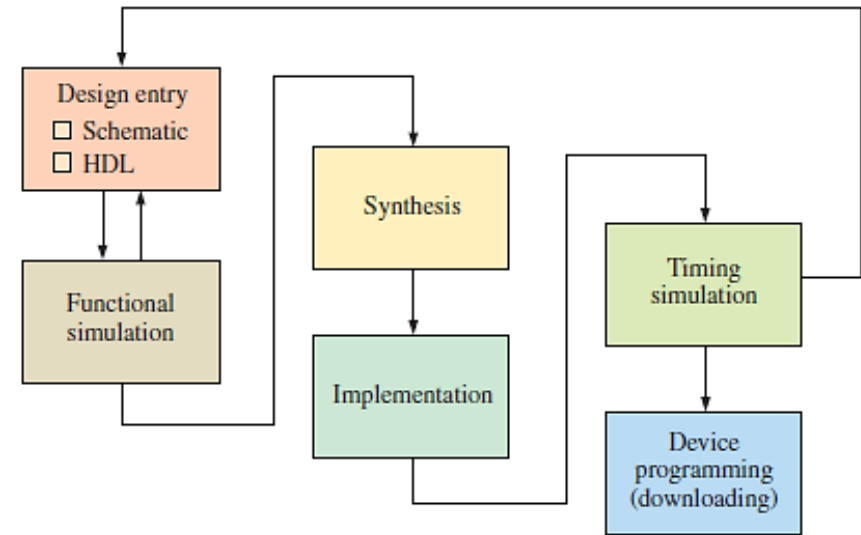

FIGURE 4 General design flow diagram for programming a SPLD, CPLD, or FPGA.
- The programming process is generally referred to as **design flow**. A basic design flow diagram for implementing a logic design in a programmable device is shown in Figure 4. Most specific software packages incorporate these elements in one form or another and process them automatically. The device being programmed is usually referred to as the **target device**.